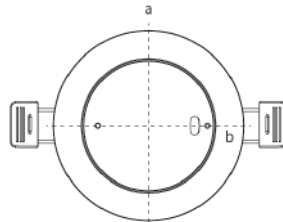

Figure 12
- The detection range of the device is oval-like, as shown in Figure 12, Edge (a) detects the short side of the diameter, Edge (b) detects the long side of the diameter, and the length of each edge varies according to different spaces and environments. The detection range can be adjusted by adjusting the installation direction of the device.